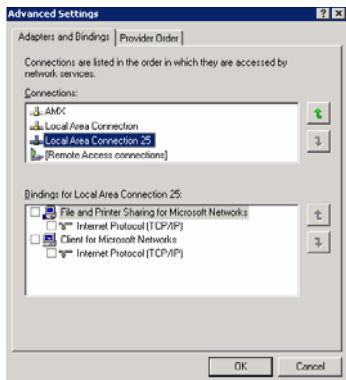

FIG. 115 Bindings for Local area list detail
5. In the lower *Bindings for Local Area Connection* field, unselect ALL bindings by clicking on the checkboxes by each binding to remove the checks from each box (FIG. 115).